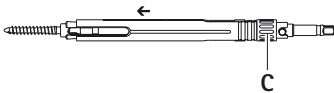

Fig. 5
- Slide outer sleeve A in the direction of the pedicle screw and with fixing screw C clamp pedicle screw in clamping sleeve 2, see Fig. 5.